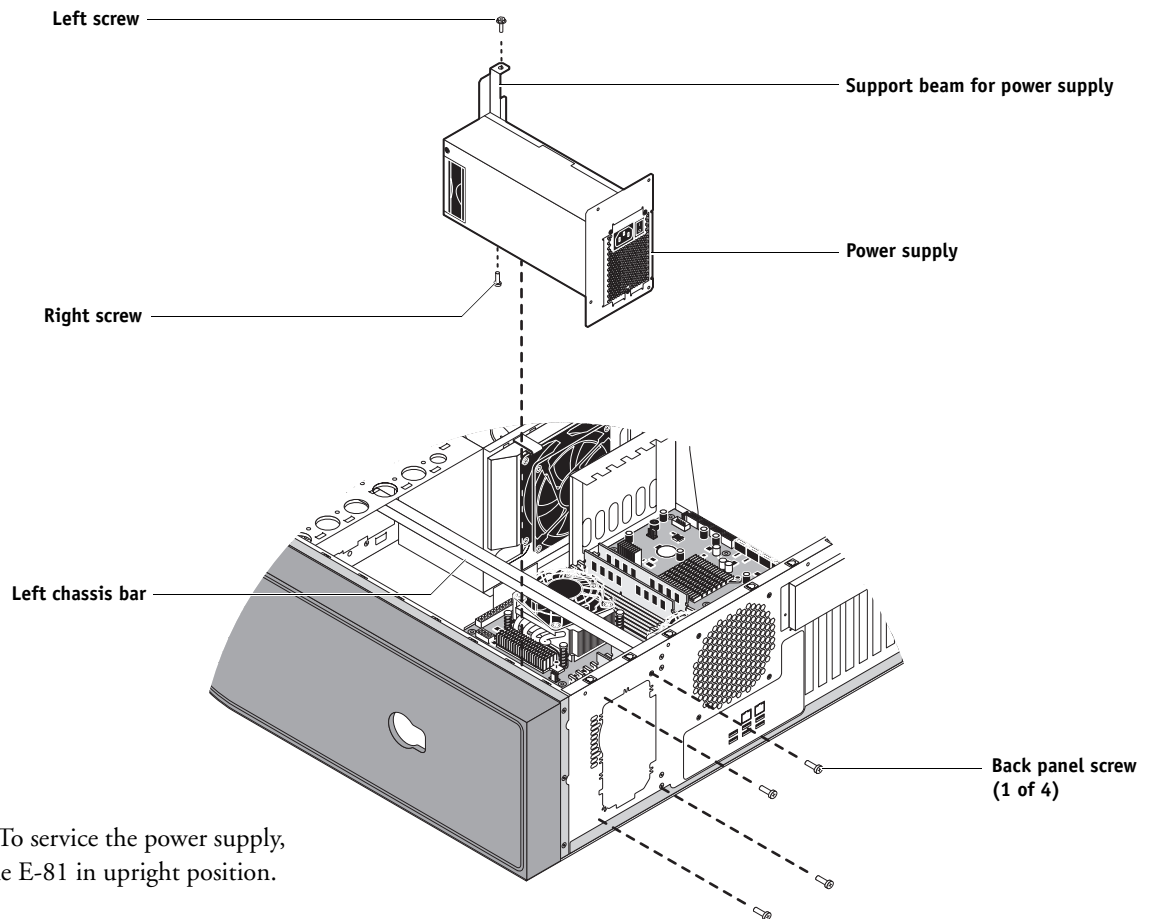

FIGURE 41: Removing/replacing the power supply
9. Remove the four back panel screws that attach the power supply to the back of the chassis (see Figure 41).
10. Remove the left and right screws that secure the power supply's support beam to the two chassis bars (see Figure 41).
2. **Position the power supply inside the chassis (see Figure 41 on page 118).**
3. **Secure the support beam to the left and right chassis bars with the two screws you removed earlier (see Figure 41 on page 118).**